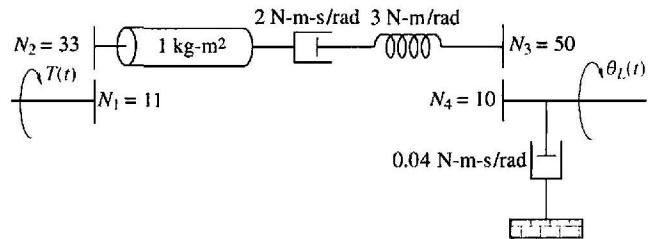

FIGURE P2.22
36. For the rotational system shown in Figure P2.22, find the transfer function, $G(s) = \theta_L(s)/T(s)$. [Section: 2.7]